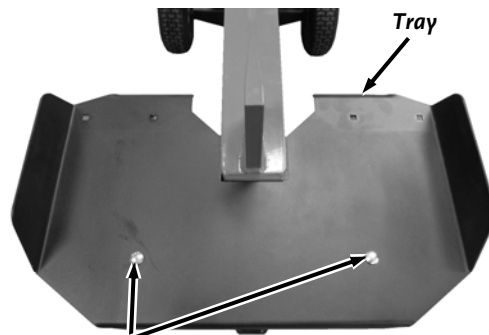

Figure 6
4. Position the Tray onto the Support Brackets and secure the front of the Tray to the Brackets with two 3/8-16 X 1" Flange Bolts and 3/8-16 Flanged Locknuts by hand but do not tighten (**Figure 6**).